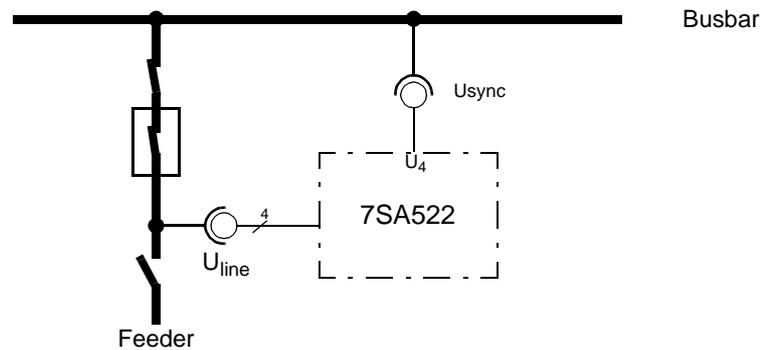

Figure 8-23 Measuring voltages for synchro-check
- Then the circuit breaker is closed while the line isolator is open (see fig. 8-23). Both voltage transformers therefore measure the same voltage.